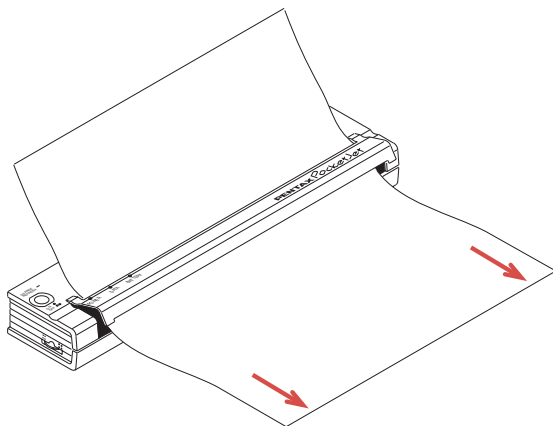

FIGURE 17. Pulling jammed paper out of the printer.
- 2 Gently pull the paper out of the printer. See Figure 17.